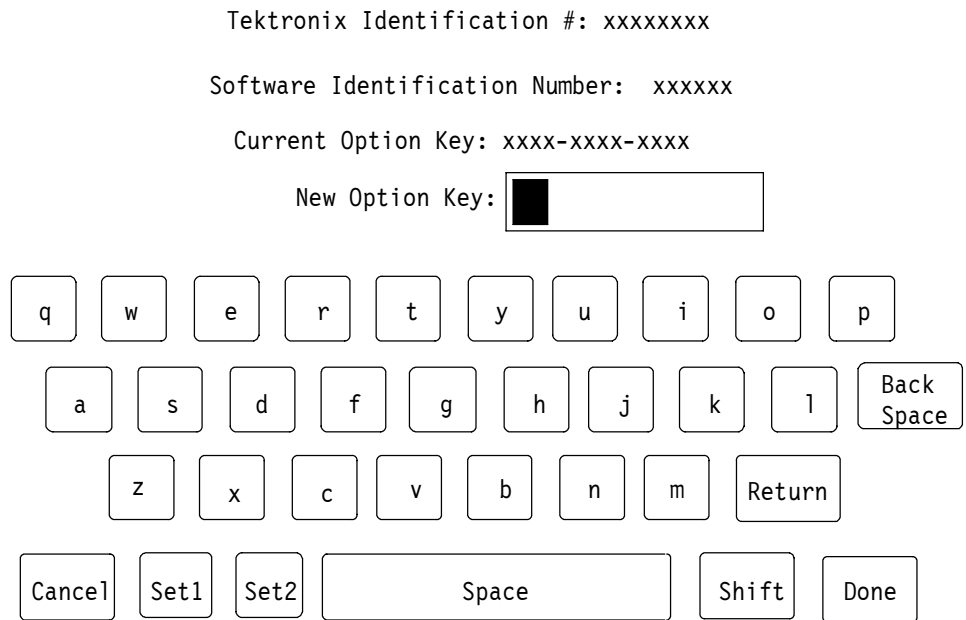

Figure 20: Option key control menu
3. Touch the Option Key soft key. This will display the option key control menu (see Figure 20).